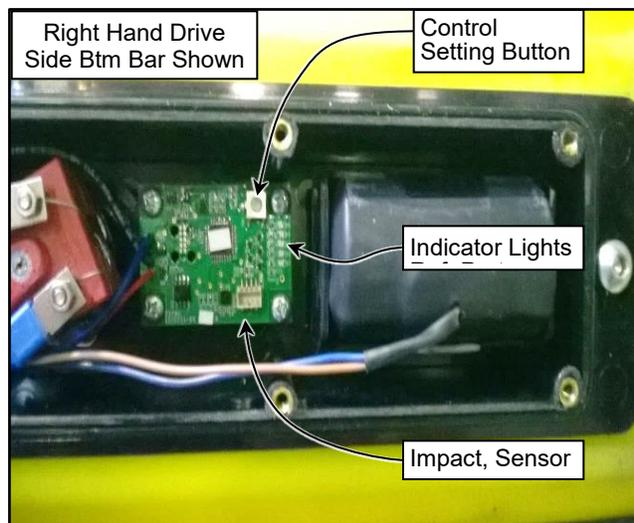

Figure 35
2. Make sure the clear PVC hose is in tight contact with the air input post so that air leakage cannot occur and that vibration will not cause the hose to fall off. Make sure the hose is not kinked. (See Figure 35)